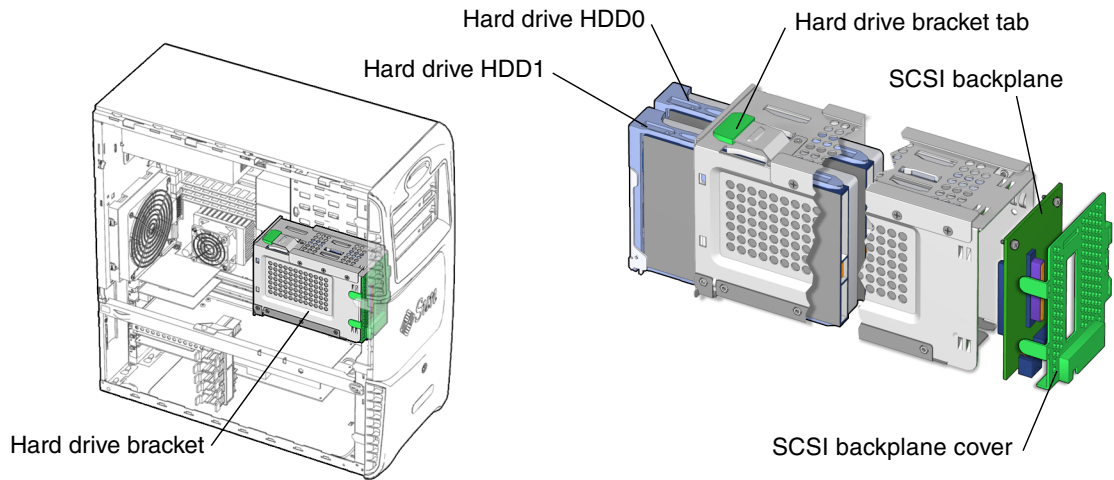

FIGURE 13-23 SCSI Backplane Location and Identification
The SCSI backplane is located between the hard drives and the green SCSI backplane cover (FIGURE 13-23). The SCSI backplane, the SCSI backplane cover, the hard drives, and the hard drive bracket are collectively the hard drive assembly. The hard drive assembly is installed in the hard drive bay. The hard drive power and interface cables connect to the hard drives through the SCSI backplane. The power and interface connectors from the SCSI backplane to the motherboard are directly accessible when the access panel is removed.
2. **Locate the SCSI backplane** (FIGURE 13-23).